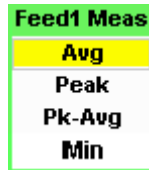

Figure 2-56 Measurement type pop-up
- 5 Press  to display the **Feed Measurement** pop-up (see Figure 2-56) and use the  and  to assign a measurement type.